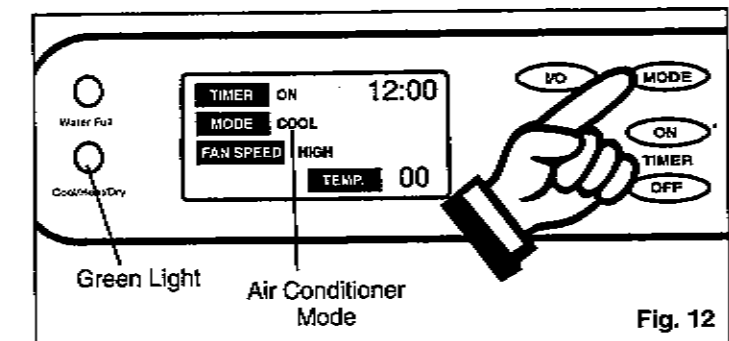

Fig. 12
- 3) Press the **MODE** key until the word **COOL** is displayed in the **LCD (Liquid Crystal Display)** window. *Fig. 12.* Each depression of the **MODE** key will advance to a different mode setting (**Cool-Heat(DPAC7599)-Dry-Fan-**).